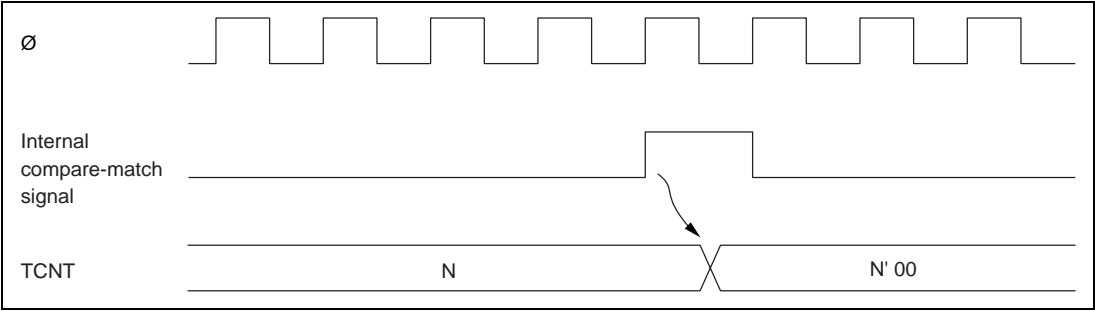

Figure 8.6 Timing of Compare-Match Clear
(3) Timing of Compare-Match Clear: Depending on the CCLR1 and CCLR0 bits in the TCR, the timer counter can be cleared when compare-match A or B occurs. Figure 8.6 shows the timing of this operation.